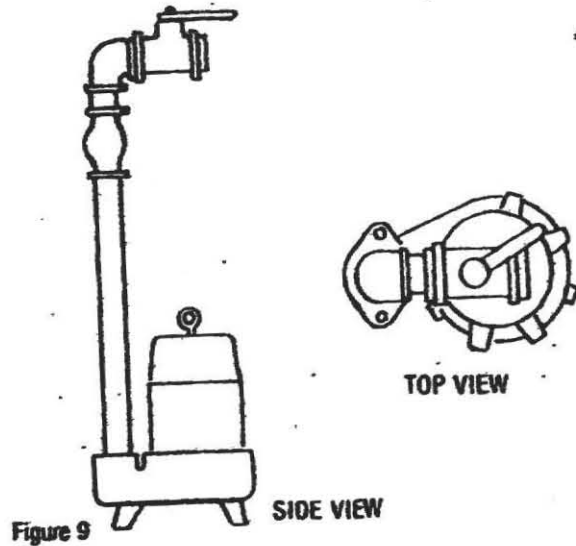

Figure 9
C. The pipes are now ready to cement. Make sure that the pipes are positioned in correlation to pump as shown in Fig. 9.
D. Use a good grade PVC cement. All parts should be clean. Apply a liberal coat of cement on both parts to be mated. Assemble parts and make 1/4 twist. Make sure parts are aligned per Fig. 9 before cement sets up.